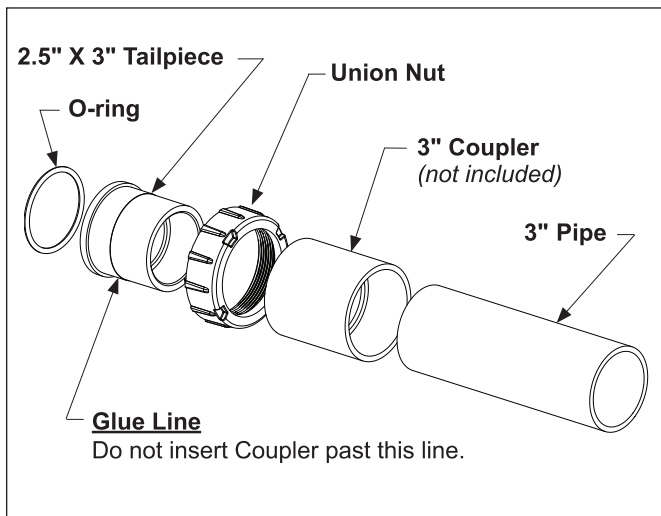

Figure 5. 2.5" X 3" Assembly Shown Connecting a 3" Schedule 40 Pipe
- For 3" pipe size, attach a 3" coupler (not included in the kit) onto the tailpiece. When gluing the coupler to the tailpiece, do not insert the coupler past the glue line (approximately 1 5/8"). Attach the end of the 3" pipe to the other end of the coupler as shown in Figure 5.